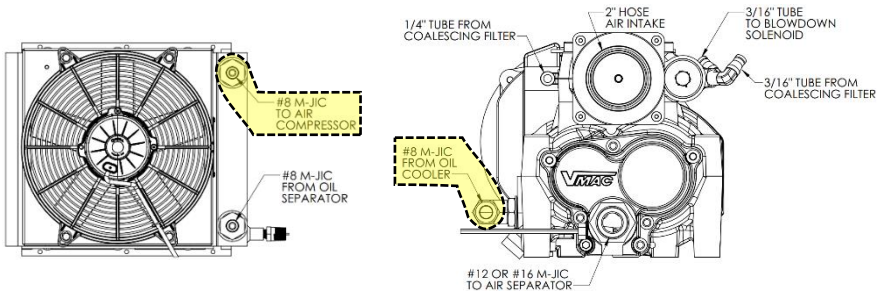

Figure 3 – Cold Oil Line Connection
- Connect the oil return line (cooled oil) located on the bottom left of the compressor to the “Oil Flow Out” fitting of the oil cooler (Figure 3). Use a second wrench to support the fitting on the component and prevent it from spinning when tightening. The recommended hose size is #8 (1/2”) hose.